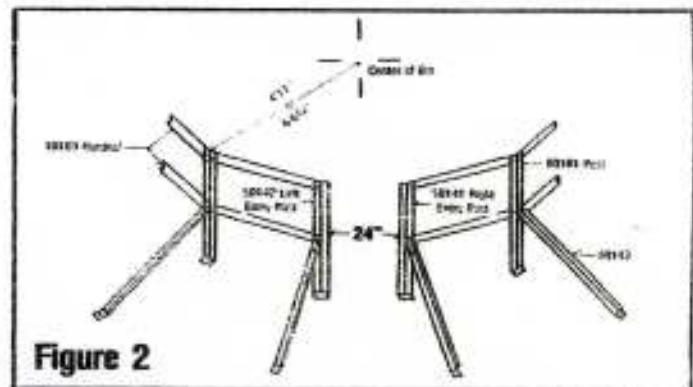

Figure 2
Refer to plan view of bin roof in Figure 2.
- Step 4:** Assemble one end of a lower handrail 10189 and one end of a brace 80143 to one of the handrail post assemblies with a 5/16" x 3/4" bolt as shown in Figure 2. **Note:** When roof stairs are used, omit brace on entry post.